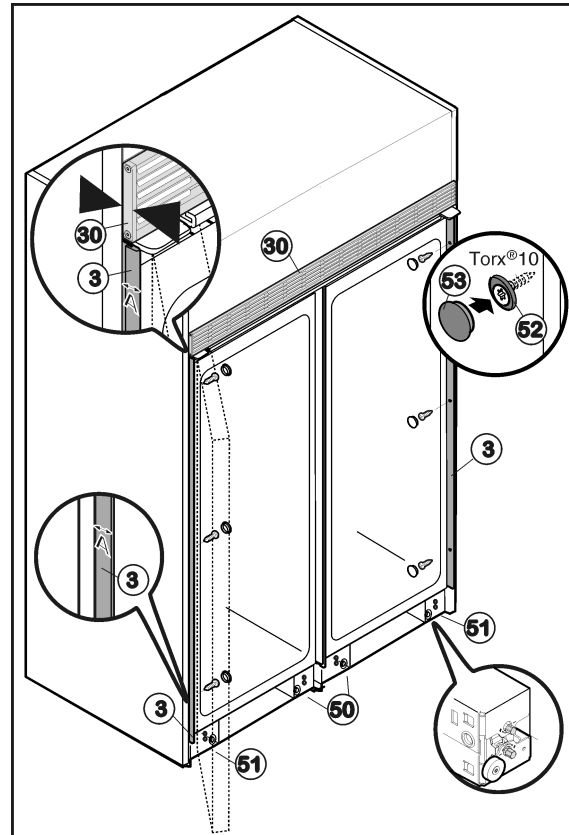

Fig. 52
- Push the appliance into the recess until the rear edge of the ventilation grille Fig. 52 (30) is flush with the front edge of the side wall of the cabinet.
- Completely screw in the two centre roller bases Fig. 52 (50) at the front and rear such that the appliance is only resting on the outer roller bases. This enables the two appliances connected to each other to be aligned jointly like a single appliance.
- Align appliance inside the recess by adjusting the outer roller bases Fig. 52 (51) and using a spirit level.
- At the top and bottom of the recess check the gap **A** between the front edge of the installation strip Fig. 52 (3) and the front edge of the side wall of the unit. It must be 1/2 " (13 mm). Realign the appliance in the recess if required.
- Secure appliance inside the recess using three screws Fig. 52 (52) hinge side of each appliance. Do not scratch the side installation strip Fig. 52 (3) when doing so.
- Place cover caps Fig. 52 (53) over the screws.
- Being careful not to affect the level, lower the levelling wheels in the center roller bases Fig. 52 (50) until they are resting on the floor.
- ▶ Fit lower ventilation grille Fig. 52 (54) flush with the floor such that the rubber lip is at the top. It is held in place via magnets.